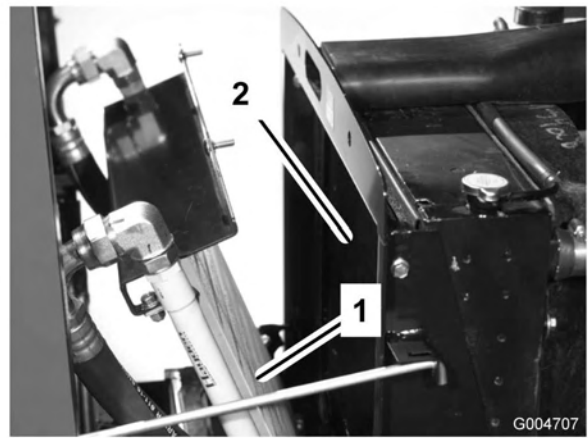

Figure 61
3. Pivot the oil cooler rearward. Clean both sides of the oil cooler and radiator area (Figure 61) thoroughly with compressed air. Start from the front and blow the debris out towards the back. Then clean from the back side and blow towards the front. Repeat procedure several times until all chaff and debris is removed.